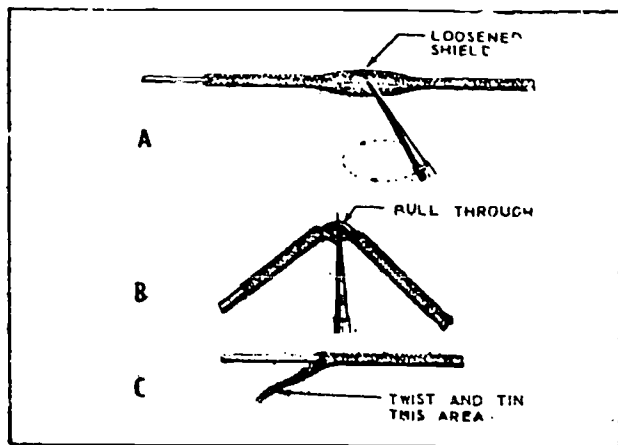

Figure 5-11. Preparation of shielded wire or cable.
Preparation of Shielded Wire or Cable. Shielded wires or cables are used extensively in electronic equipment to reduce the possibility of introducing undesirable signals into low-level circuits. A typical shielded wire consists of an insulated stranded wire surrounded by a tinned braided shielding. Figure 5-11 illustrates the pigtail method of preparing a shielded wire or cable for a solder connection. **CAUTION:** Exercise extreme care to avoid damaging shielding or insulated wire while forming pigtail.
(1) Determine and mark the point where the shielding is to terminate. This point will depend upon the individual installation.
(2) Push the shielding braid to form a bubble (as shown in fig. 5-11,A) at the termination point.
(3) Insert the end of a soldering aid into the shielding braid at the termination point and work an open circular area in the shield.
(4) Bend the wire and insert the soldering aid between the shielding and the insulated wire (as shown in fig. 5-11,B). Pull the insulated wire through the open circular area in the shielding.
(5) Pull the empty part of the shielding taut and tin the end to prevent fraying.
(6) Strip the insulation from the center wire as described in earlier paragraphs.